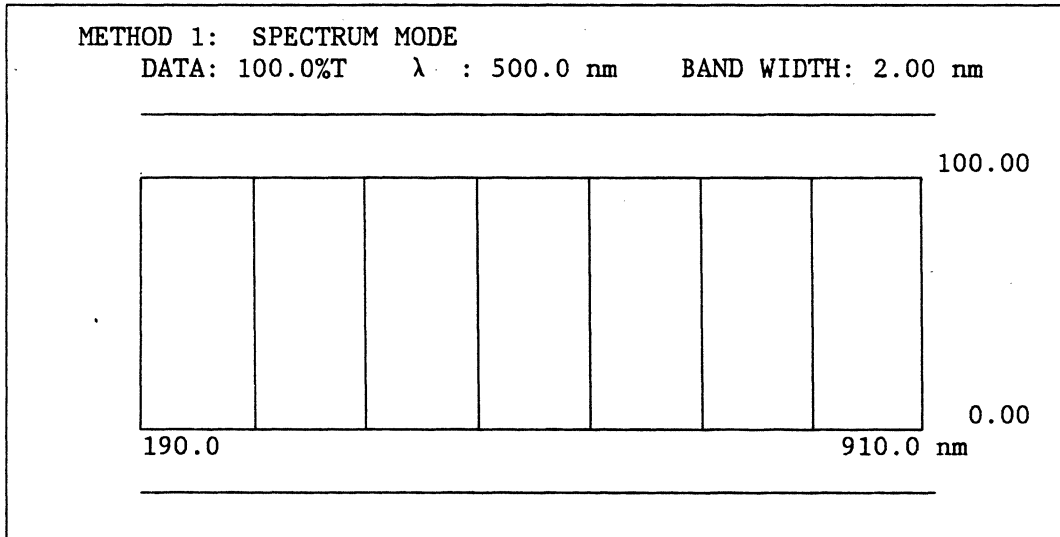

Figure 3-1. Method 1 Display
1. Press the **Method**, **1** and **Enter** keys. A grid for the display of spectral data will appear on the CRT, as shown in Figure 3-1.
- Use the **Chart Set** key to select either (1), sequential, or (2), overlay plotting.
- Set the **Scaling** key to (1), ON, to provide automatic generation of the axes for each plot. In overlay mode, the axes will be drawn for the first plot only. Alternatively, the (3) Draw function can be used to draw the axes immediately. The status will change to (2) OFF after the axes are drawn.
- c. Use the **Plot Mode** key to select the line type for the plot, (1) FULL, (2) DOTTED, (3) BROKEN or (4) CHAIN. The plot mode can be changed between successive scans.
5. If no plotting is required, select the **Chart Set** option (3), OFF.
6. When all the parameters have been selected, press **Display List** again, to return the display to the measurement grid, as shown in Figure 3-1.